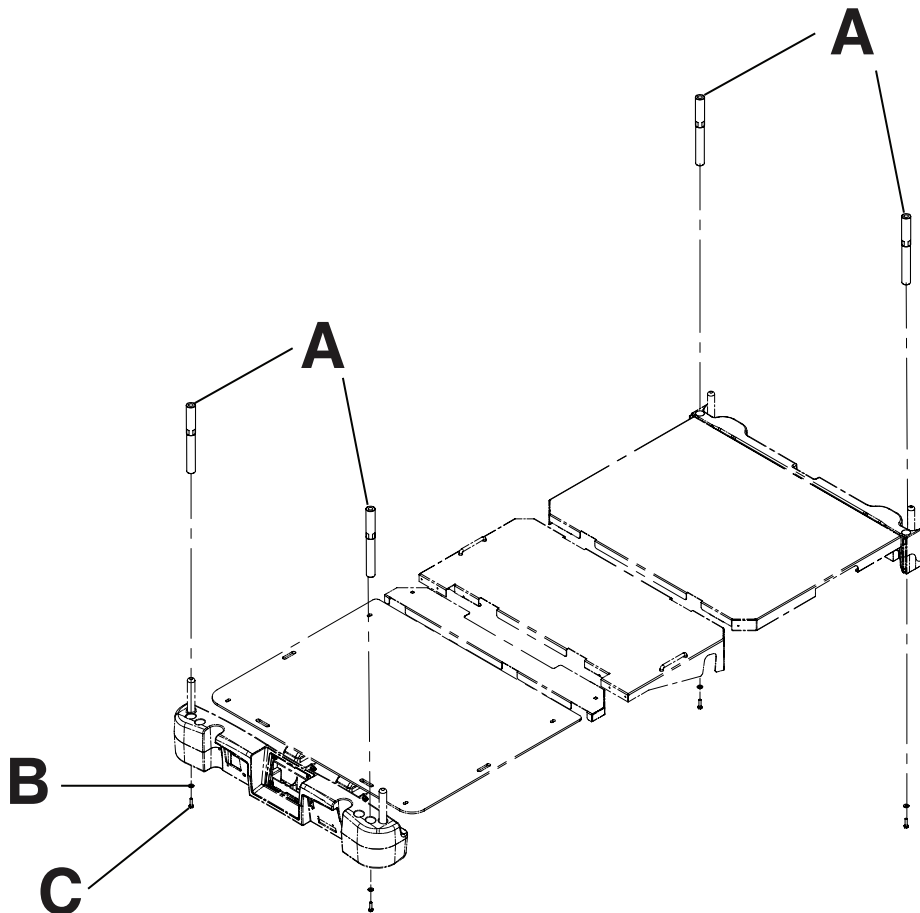

Figure 103: Traction sleeves
1. Install the traction sleeves into the sockets at the head end and foot end of the product (A) (Figure 103 on page 106).
2. Using a 7/16 in. combination wrench, install one washer (B) and one bolt (C) to secure the traction sleeve in the socket (Figure 103 on page 106).